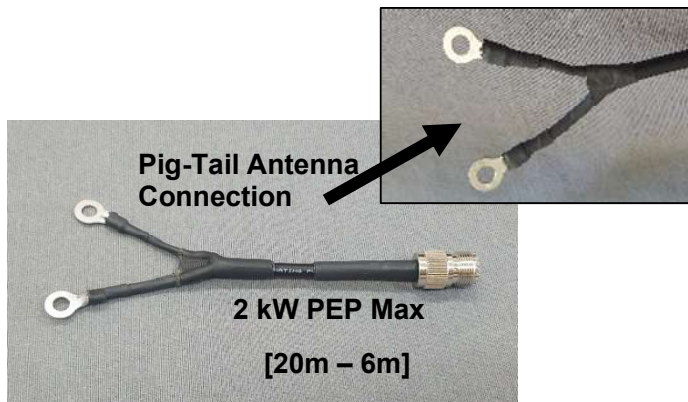

FIGURE 128
- XOR offers a SO239 to pigtail coax adapter (**FIG. 128**) for connecting a COAX cable with PL259 connector to the XOR antenna. It is highly recommended that 10 MIX 31 clamp-on Ferrite Beads be added onto your coax near the adapter for acceptable CMRR on all Bands.